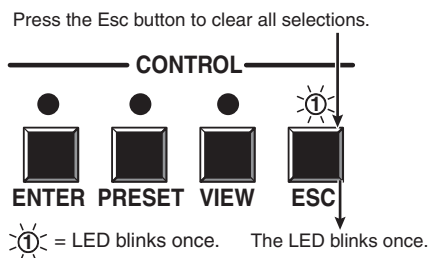

Figure 3-27 — Clear all selections
1. Press and release the Esc button (figure 3-27).